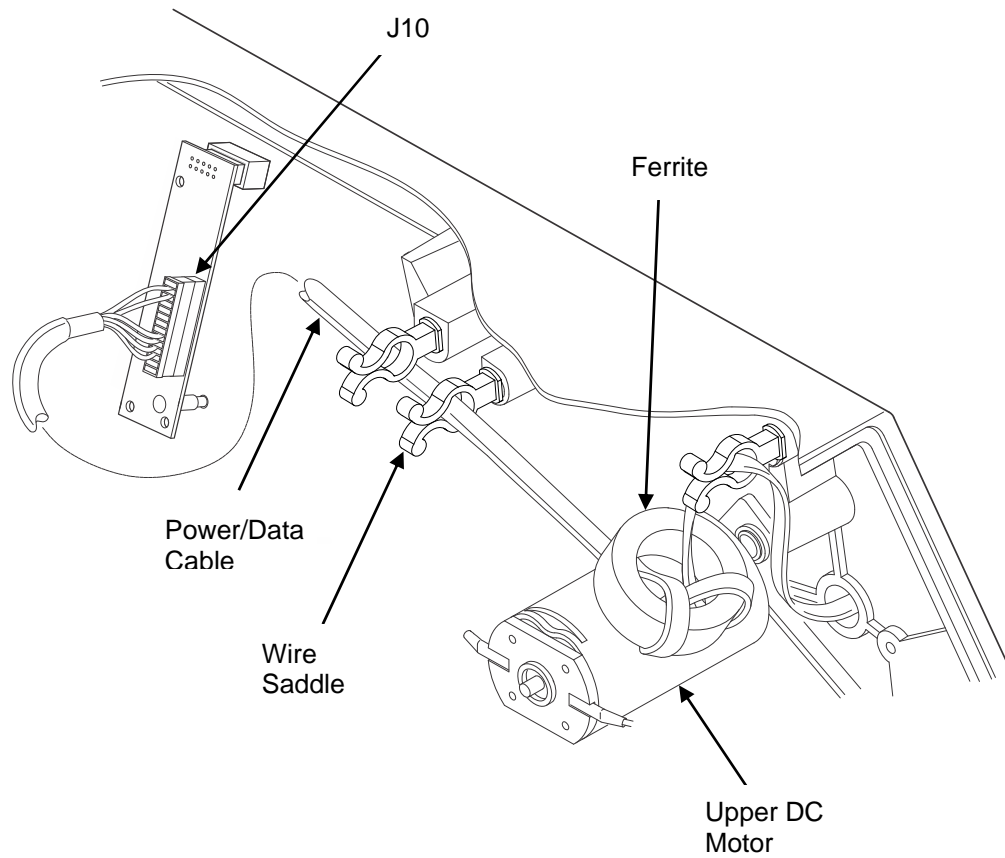

Figure 9 Position the Ferrite
15. On the electronics side of the printer, position the ferrite on top of the upper DC motor. (Figure 9)
16. Route the power/data cable through the wire saddle as shown in Figure 9.